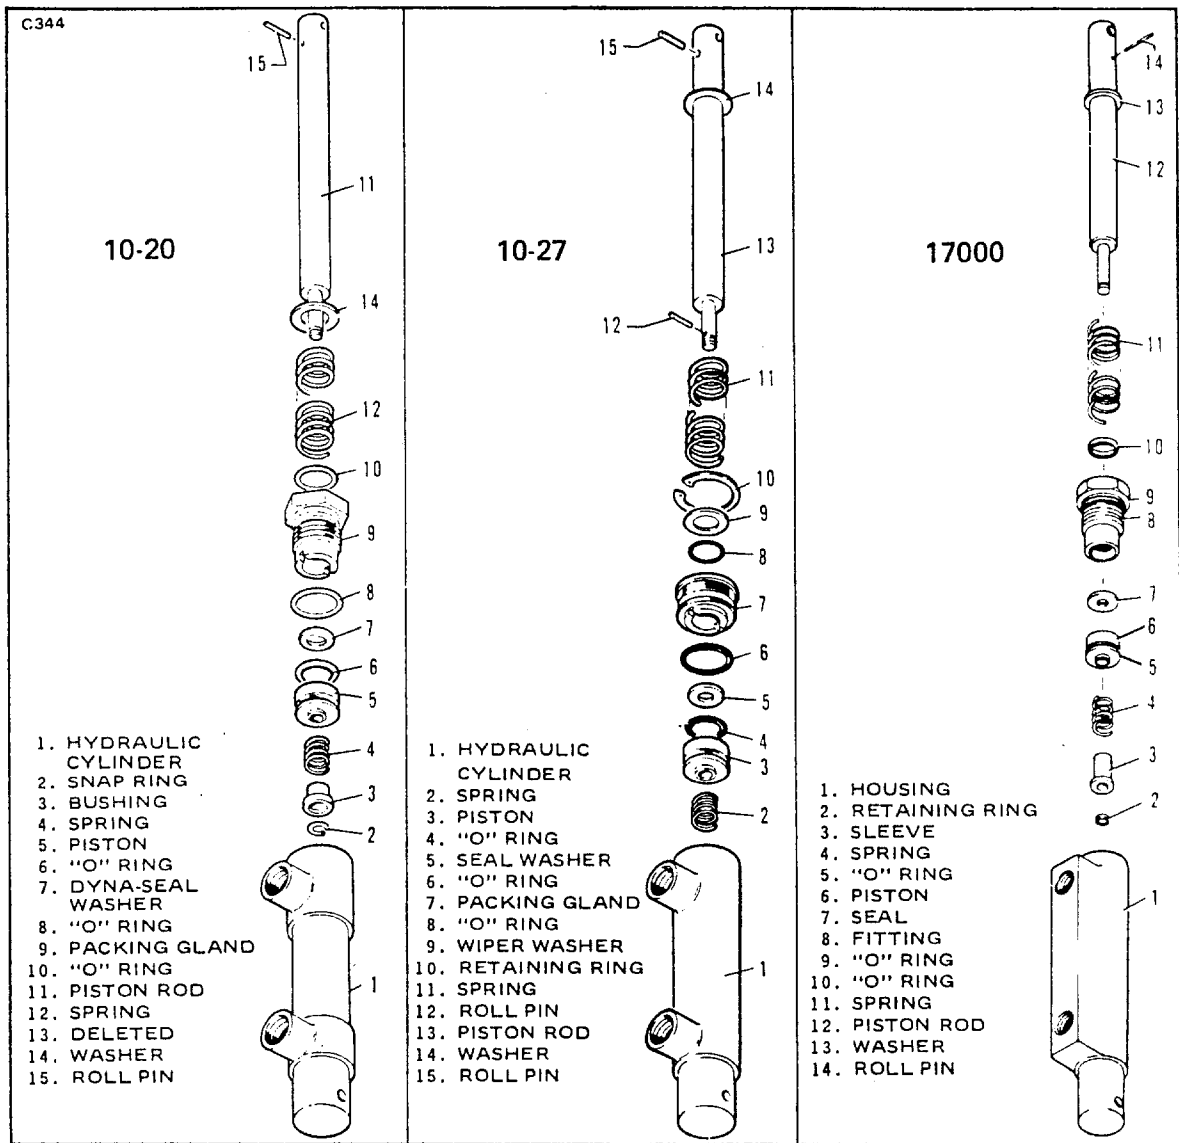
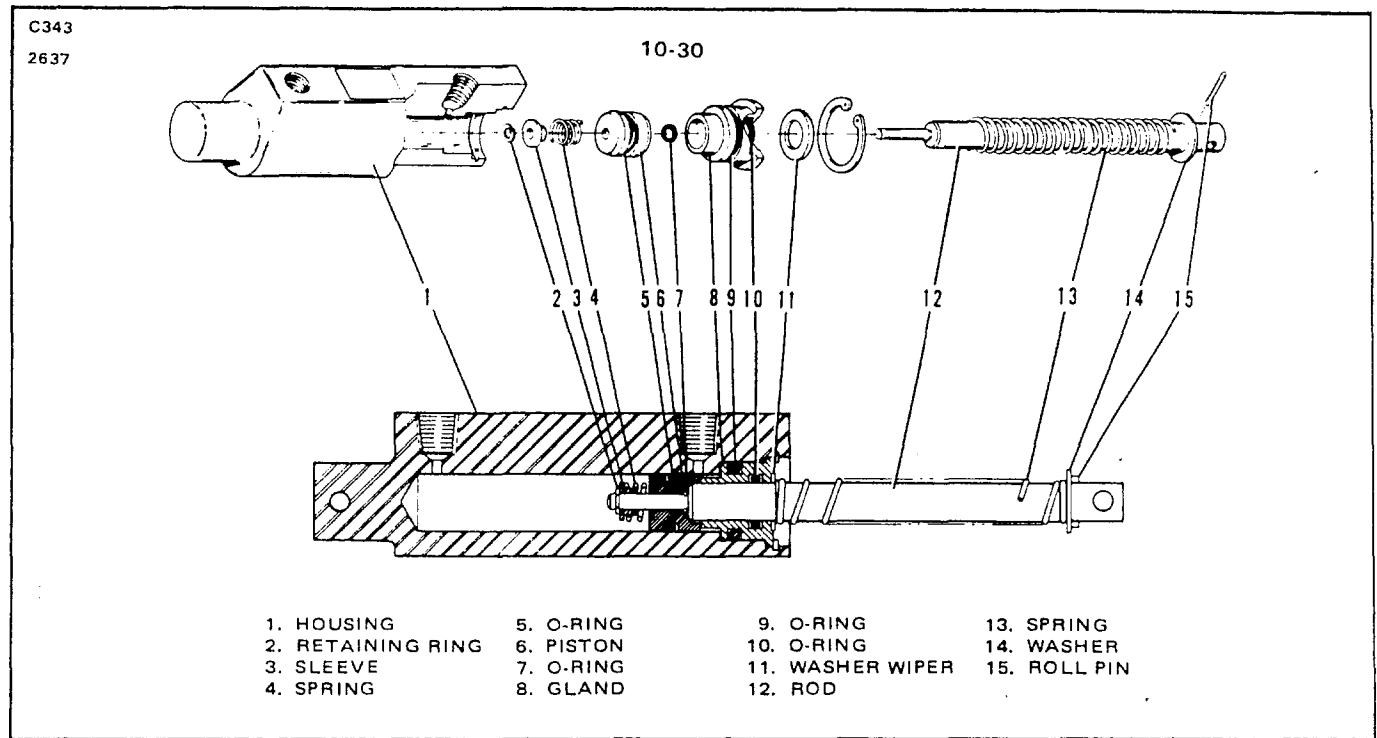

Figure 7-20. Brake Cylinder (Toe Brake)
Figure 7-21. Brake Cylinder (10-30) (Toe Brake)
- a. Cleveland cylinder number 10-20. (Refer to Figure 7-20.)
2. To disassemble the cylinder, first remove the piston rod assembly by unscrewing the packing gland (9) from the cylinder.
3. The piston rod assembly may be disassembled by first removing the small snap ring (2) securing the retainer bushing (3) and then removing the bushing, spring (4), piston (5), seal (7), gland (9), and, if desired, the large return spring.
- b. Cleveland cylinder number 10-27. (Refer to Figure 7-20.)
2. To disassemble the cylinder, first remove the piston rod assembly by removing the snap ring (10) from the annular slot in the cylinder housing (1). Draw the piston rod assembly from the cylinder.
3. The piston rod assembly may be disassembled by first removing the roll pin (12) and then the piston assembly (3), seal (5), packing gland (7).
- c. Cleveland cylinder number 10-30. (Refer to Figure 7-21.)
2. To disassemble the cylinder, first remove the piston rod assembly by removing the retaining ring from the annular slot in the cylinder housing (1). Draw the piston rod assembly from the cylinder.
3. The piston rod assembly may be disassembled by first removing the retaining ring (2), sleeve (3), spring (4), and then the piston assembly, O-ring (5), and gland (8), and, if desired, the return spring (13).
- d. Gar-Kenyon cylinder number 17000. (Refer to Figure 7-20.)
2. To disassemble the cylinder, first remove the piston rod assembly by unscrewing the fitting (8) from the cylinder.
3. The piston rod assembly may be disassembled by first removing the retaining ring (2) securing the sleeve (3) and then removing the spring (4), piston (6), seal (7), fitting (8), and, if desired, the large return spring (11).
1. Install new "O" rings on the inside and outside of the packing gland (9) and on the outside of the piston (5).
2. To assemble the piston rod assembly, install on the rod (11), in order, the roll pin (15), return spring retainer washer (14), return spring (12), packing gland (9) with "O" rings, seal (7), piston (5) with "O" ring, spring (4) and retainer bushing (3). Secure these pieces with the small ring (2) on the end of the rod.
3. Insert the piston rod assembly in the cylinder (1) and secure packing (9).
1. Install new "O" rings on the inside and outside of the packing gland (7) and on the outside of the piston (3). (Refer to above note.)
2. To assemble the piston rod assembly, install on the rod (13), in order, the roll pin (15), washer (14), spring (11), washer (9), packing gland (7), seal (5), piston assembly (3) and spring (2).
3. Insert the piston rod assembly in the cylinder (1) and secure with the snap ring (10).
1. Install new O-rings on the inside and outside of the packing gland (7) and on the outside of the piston (3).
2. To assemble the piston rod assembly, install on the rod (12), in order, the roll pin (14), washer (13), spring (11), washer (9), packing gland (7) with O-rings, seal (5), piston assembly (3) with O-ring, spring (2), and roll pin (15).
3. Insert the piston rod assembly in the cylinder (1) and secure with the retaining ring (10).
1. Install new O-rings on the inside and outside of the fitting (8) and on the outside of the piston (6). (Refer to above note.)
2. To assemble the piston rod assembly, install on the rod (12), in order, the roll pin (14), return spring retainer washer (13), return spring (11), fitting (8) with O-rings, seal (7), piston (6) with O-ring, spring (4) and sleeve (3). Secure these pieces with the retaining ring (2) on the end of the rod.
3. Insert the piston rod assembly in the cylinder (1) and secure fitting (8).